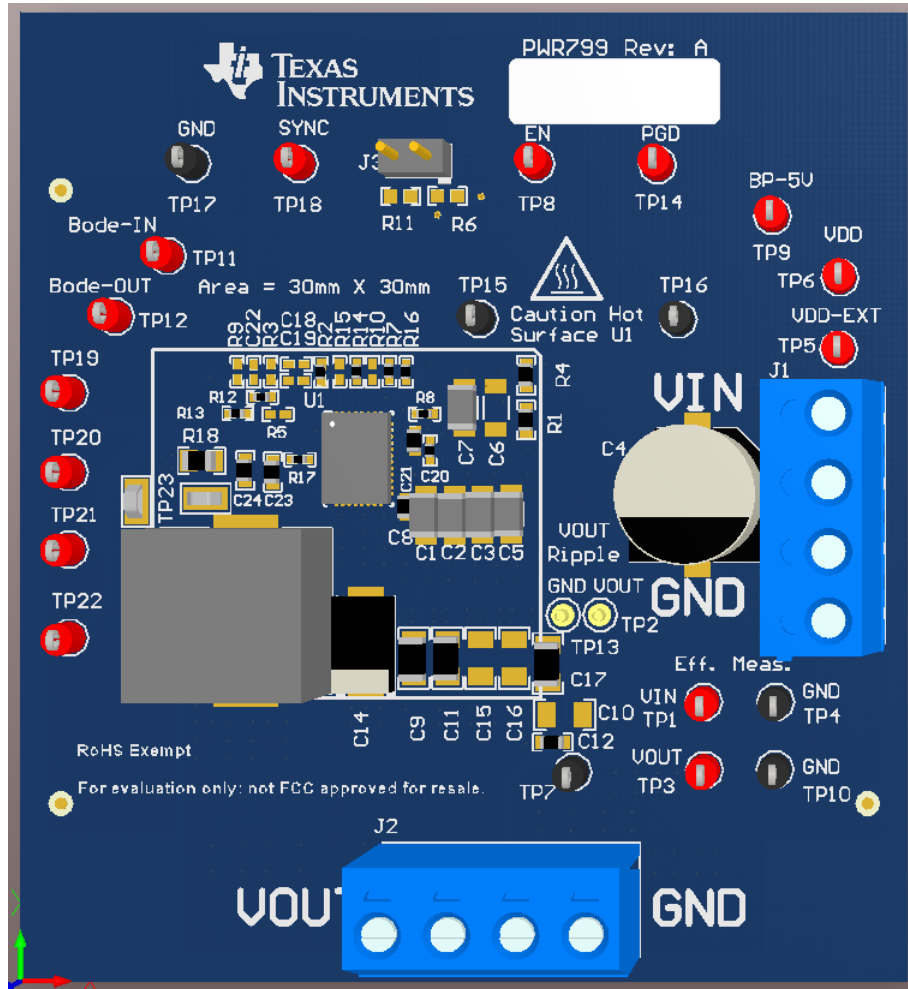

Figure 2. PWR799EVM Overview
Multimeters: It is recommended to use two separate multimeters Figure 2. One meter is used to measure V_{IN} and one to measure V_{OUT} .
Output Load: A variable electronic load is recommended for testing Figure 2. It must be capable of 25 A at voltages as low as 0.6 V.
1. Connect VOUT to J2 and VOUT_GND to J2 Figure 2.
4. Connect VIN to J1 and VIN_GND to J1 Figure 2.